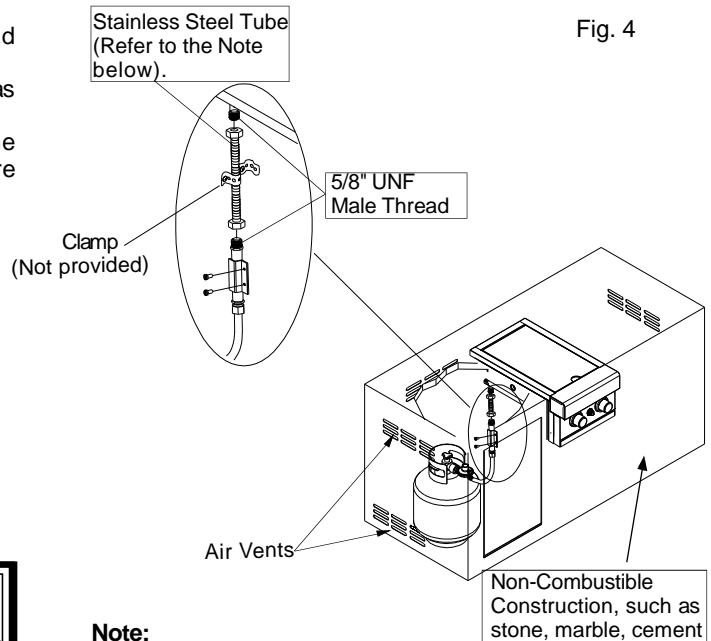

Fig. 4
NOTE: When using Propane (LP), EXTREME CAUTION should be used to provide ample ventilation of vapor from the enclosure. LP Gas vapor is heavier than air and SERIOUS INJURY from a DANGEROUS EXPLOSION could occur if LP Gas is allowed to accumulate in an enclosure and then ignited. Both the Barbeque enclosure and LP cylinder enclosure require venting that must be provided at the floor level of the enclosure to allow any leaking LP Gas vapor to escape (see Fig. 4). **NOTE:** When installing a barbeque equipped for liquid propane (LP) in an island, the LP tank must be in a separate enclosure that is completely isolated from the barbeque. It must be cross-ventilated in accordance with local codes. The LP tank MUST NEVER be installed directly under the barbeque.